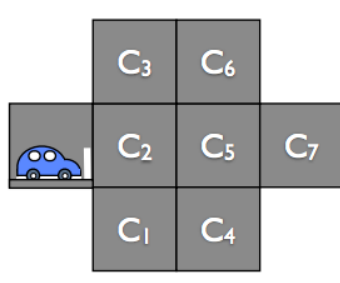

Figure 2: "Intersection" for Exercise 2.
**Exercise 2:** Consider the scenario in Figure 2. Express the following specifications formally in temporal logic and synthesize an intersection logic that realizes the specifications from the shown initial location of the car. The requirements are the following. (i) The car is eventually at  $C_6$ . (ii) If there initially is a car in one of the cells  $C_3$ ,  $C_4$ , and  $C_7$ , the controlled car needs to wait until that car disappears before going through the intersection. (iii) The controlled car can go through the intersection only when  $C_2$  and  $C_5$  are clear. (iv) The controlled car should not collide with other cars in the intersection. (v) The controlled car can move only forward to an adjacent cell (fine to turn  $90^\circ$  inside a cell).